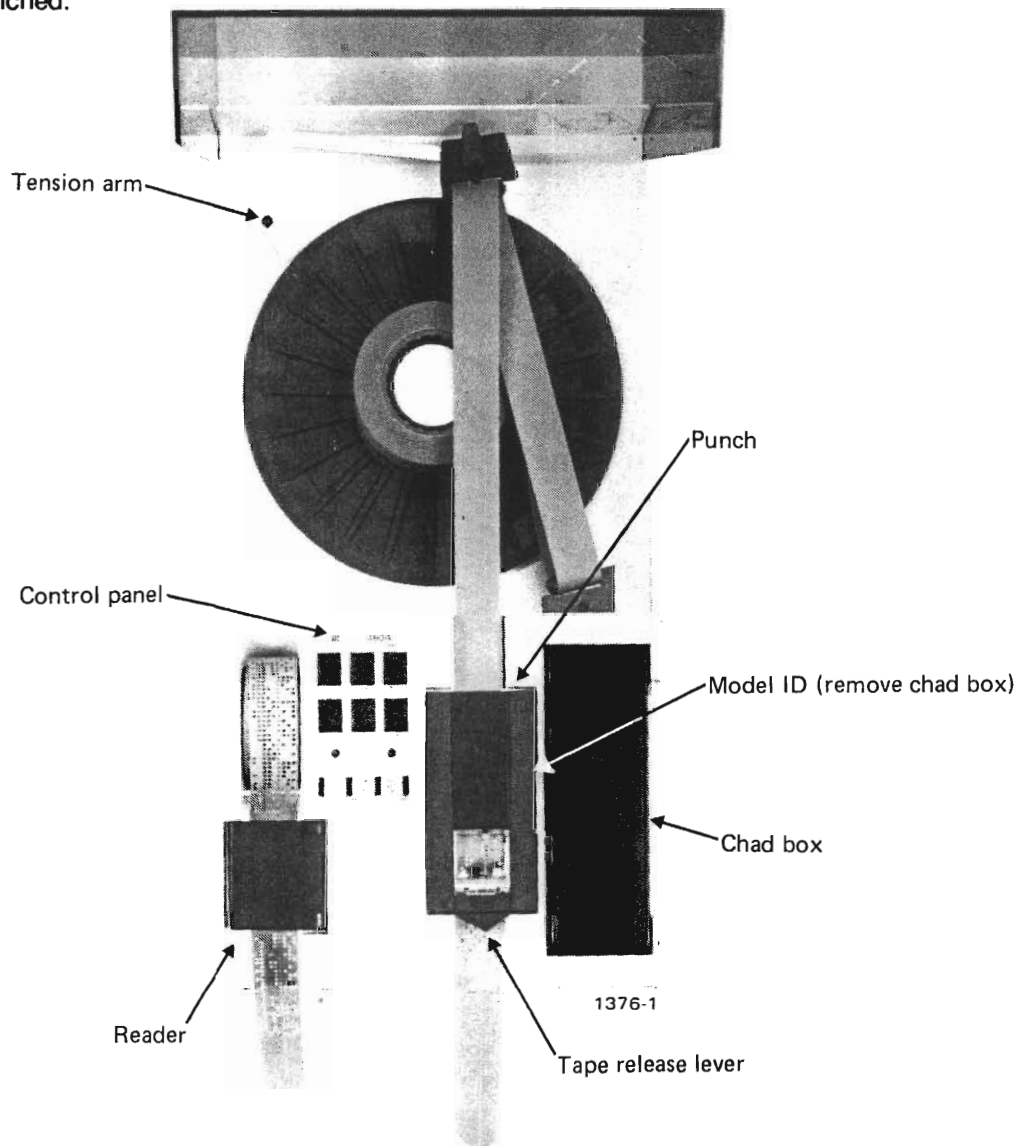

Fig. 2.6 Top View
3. Thread the tape around the two rollers as shown in Fig. 2.6.
Place the tape to be read in the container as shown in Fig. 2.6. Open the reader lid, place the tape underneath the "nose" and engage the tape with the sprocket, and close the lid. If the optional unwinder is to be used (reels larger than 75 mm) thread the tape as shown in Fig. 3.1.